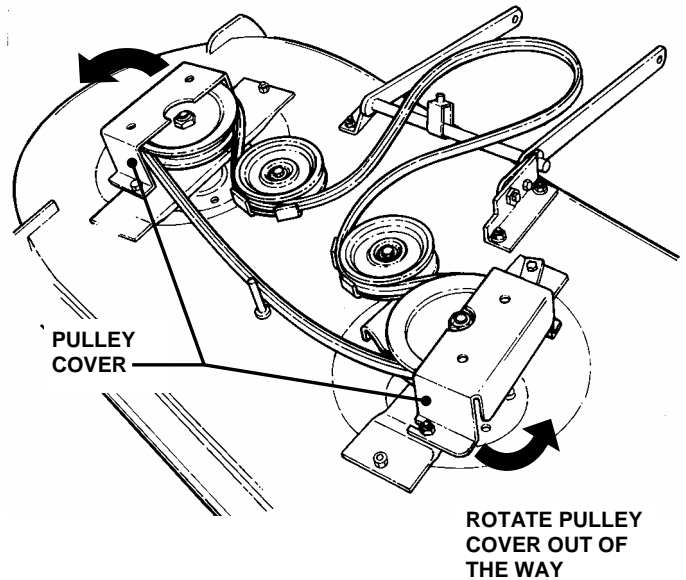

FIGURE 4.33
4. Remove deck idler tension spring. Loosen bolts that secure the end of the spindle pulley covers and rotate cover around out of the way. See Figure 4.32 & Figure 4.33.